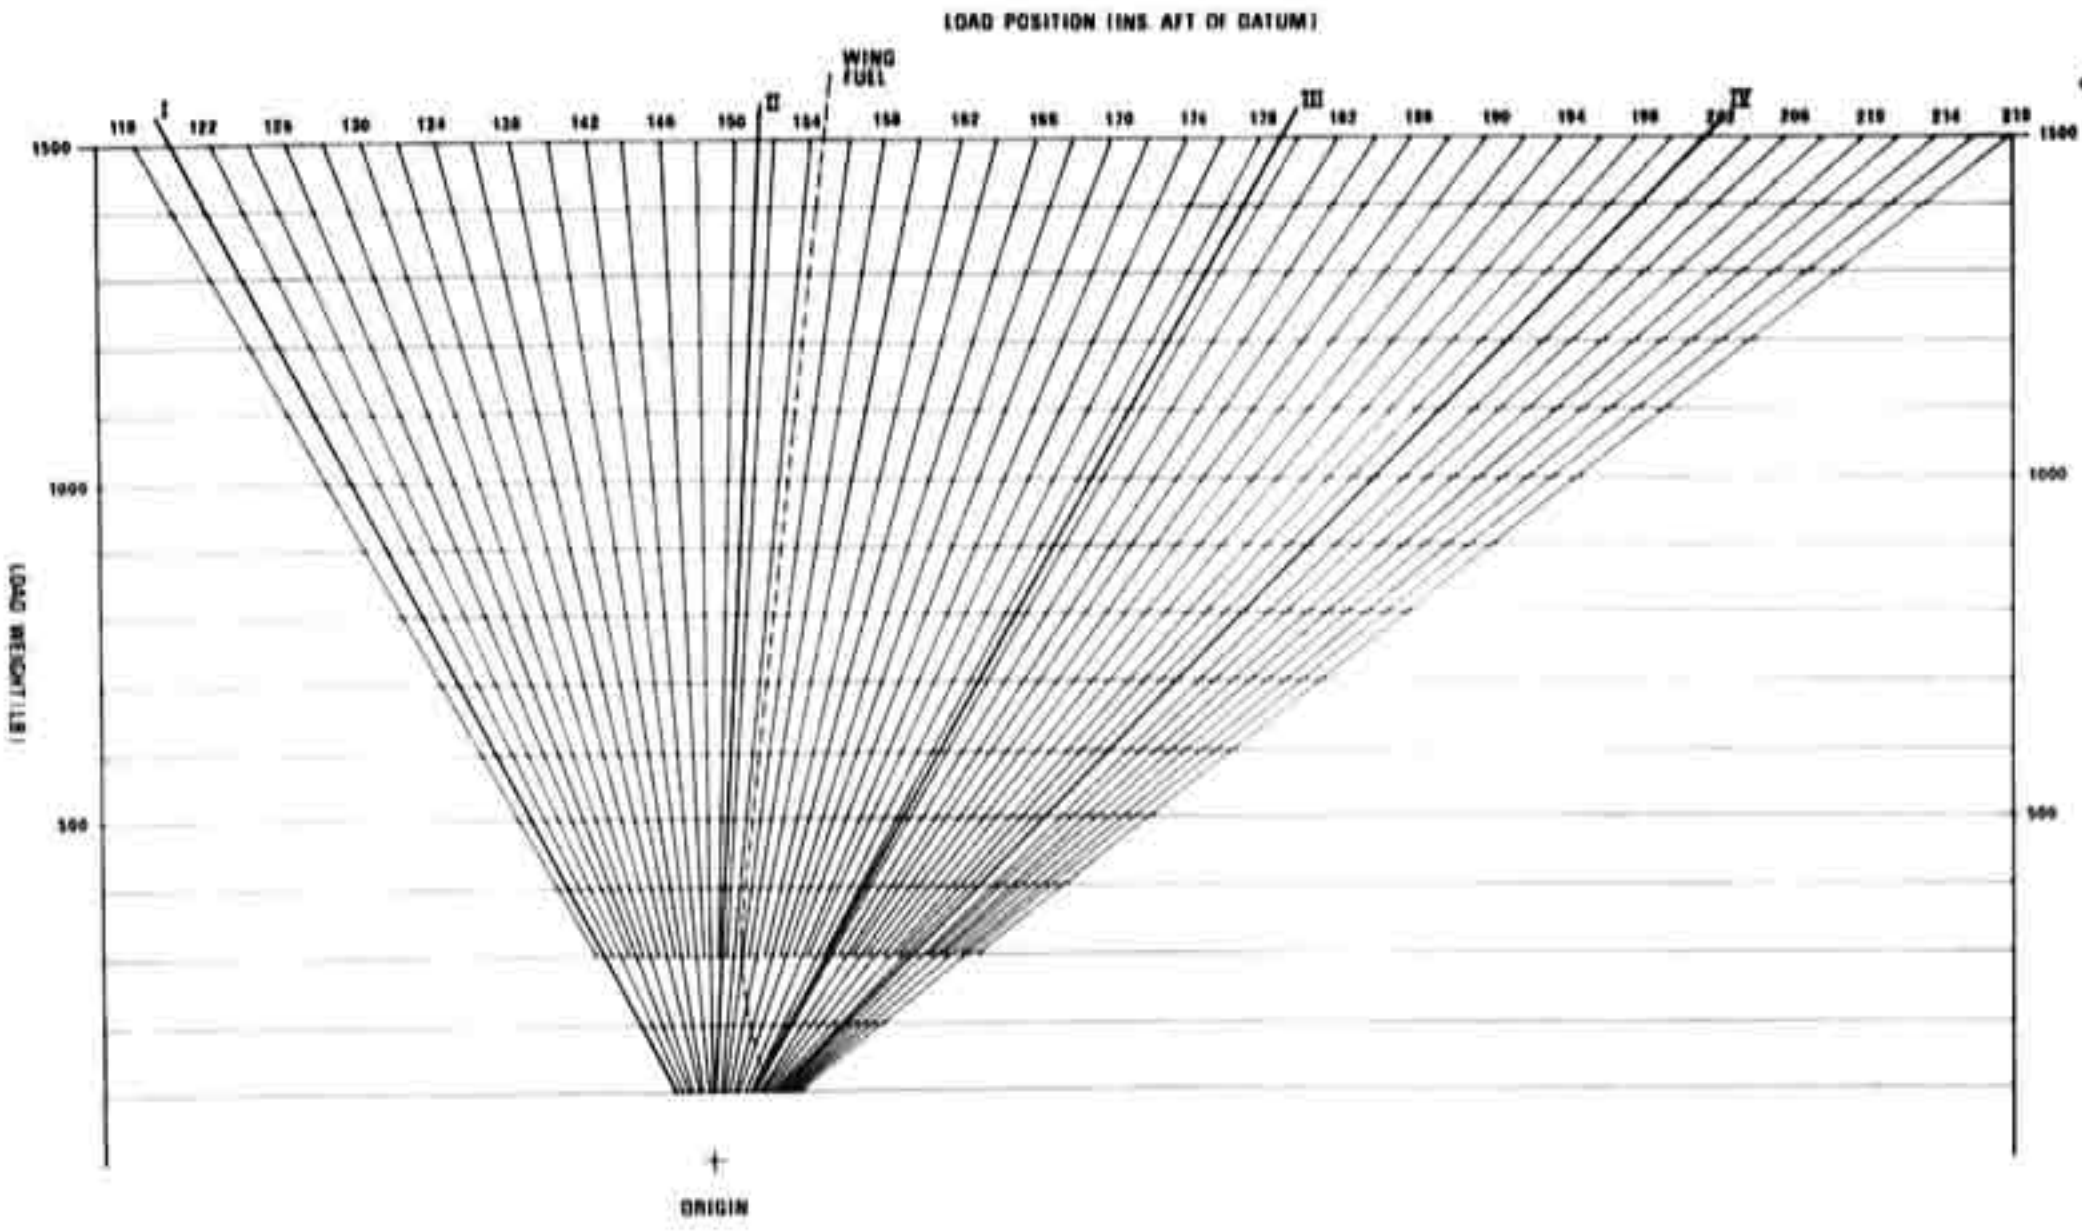

FIG 5-6
Reference to Loading and Balance summary (AAP 7211.001-5) and Weight and Balance Charts (Fig 5-5 and Fig 5-6) will provide the pilot with the necessary information on CG limits.
515. **Weight Limitations Charts.** The Weight and Centre of Gravity Limitations are shown on page 5-8 of this section and on the Aircraft Loading Chart. (Refer Fig. 5-6). These charts are intended for use in pre-flight planning where weight and CG vary considerably depending on the requirements of the operation.
Fig. 5-5 may be on a transparent sheet so that it can be used as an overlay to Fig. 5-6.
2. Place Fig. 5-5 on Fig. 5-6 so that point (a) is superimposed on origin and align sheets so that horizontal (weight) lines are parallel.
3. Plot fuel weight from Fig. 5-6 onto Fig. 5-5 (wing tank fuel only).